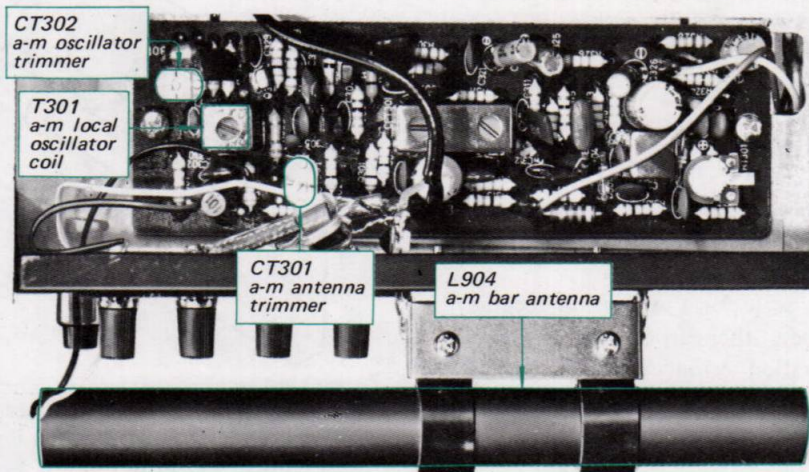

Fig. 3-10. Parts location (2)
turn the local oscillator-coil T301 (see Fig. 3-10) slightly until optimum dial calibration is obtained.
2. Tune the receiver to the highest-frequency station in your locality. If the dial calibration error exceeds  $\pm 30$  kHz from the carrier frequency, adjust local-oscillator trimmer-capacitor CT302 (see Fig. 3-10) to obtain maximum calibration accuracy. Repeat the above steps two or three times.
2. Tune the set to the station whose carrier frequency is closest to 1,400 kHz and adjust antenna trimmer CT301 to obtain maximum output. See Fig. 3-10.